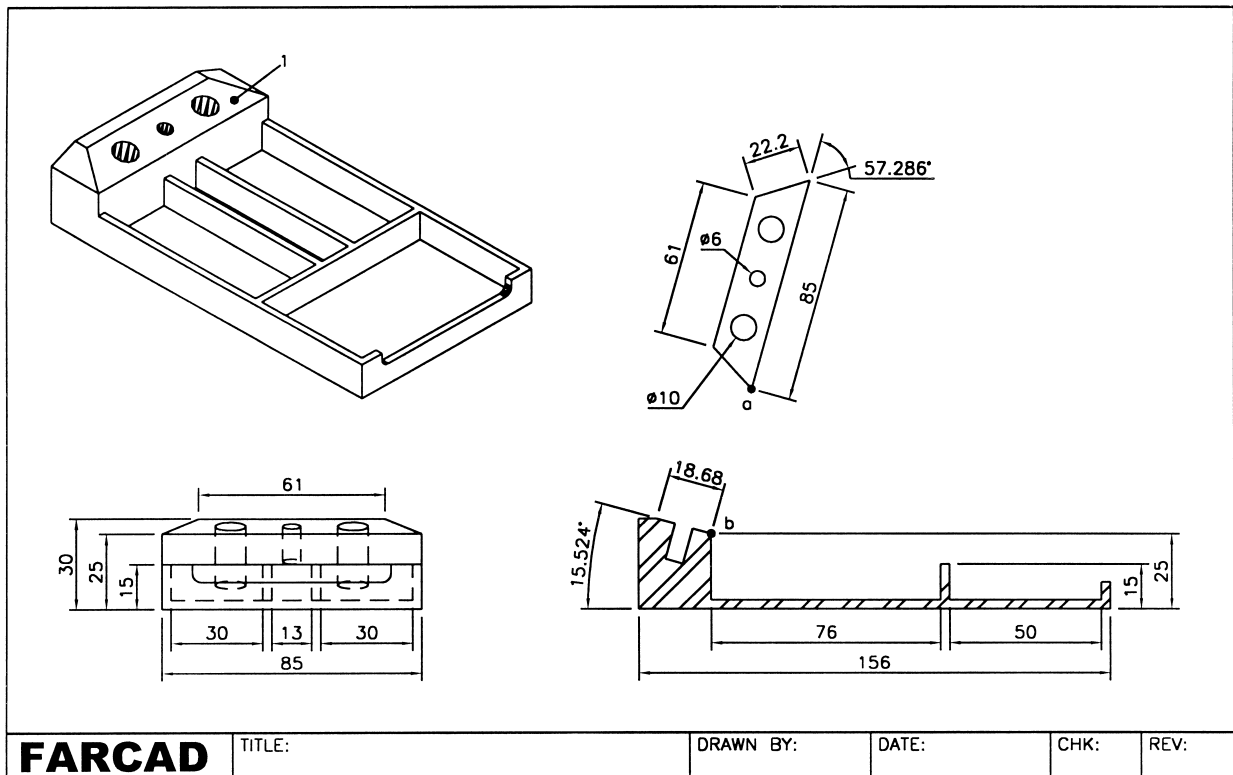

Figure 41.3 Extracting details for the desk tidy model.
- 1 Refer to Fig. 41.3 and with the top left viewport active, select the SETUP PROFILE icon from the Solids toolbar and:
- 1 The layout on your screen at present will differ from Fig. 41.3 so in paper space use the MOVE command to interchange the viewports, i.e. the two lower viewports to the top of the paper sheet and the two top viewports to the bottom of the sheet. Use the endpoint icon and pick a viewport border corner
- 3 With DIMASSOC set to 2, add paper space dimensions to the layout as Fig. 41.3